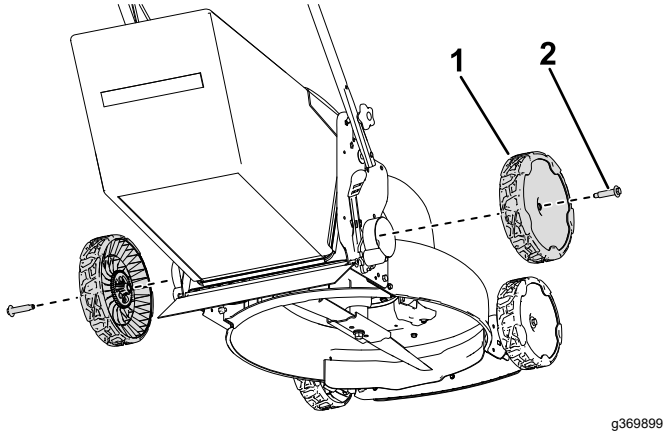

Figure 4
1. Use the previously removed bolts to secure the wheels to the machine (Figure 4).